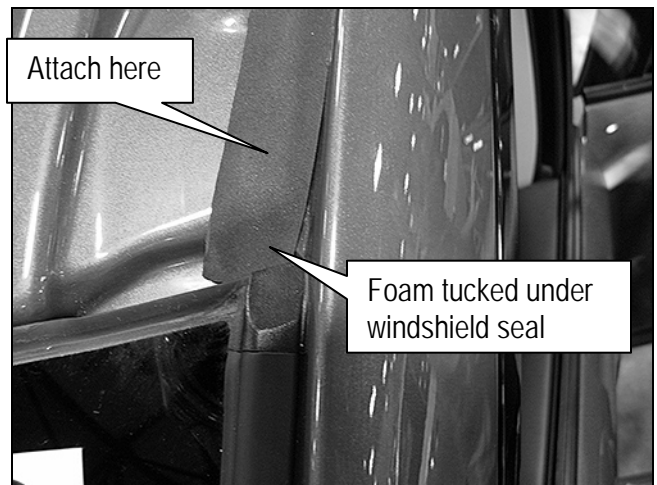

Figure 8
- b. Attach several inches of the first foam strip at the corner of the windshield (Figure 8).